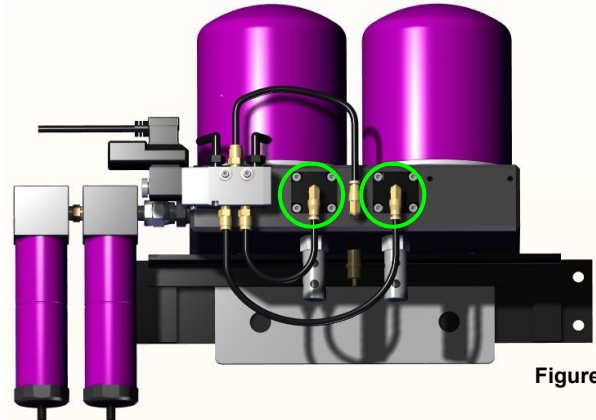

Figure 6
3. Disconnect tubing from quick-connect fitting located on piston cover. Push in on brass ring. While holding ring in, pull out tubing. Figure 6